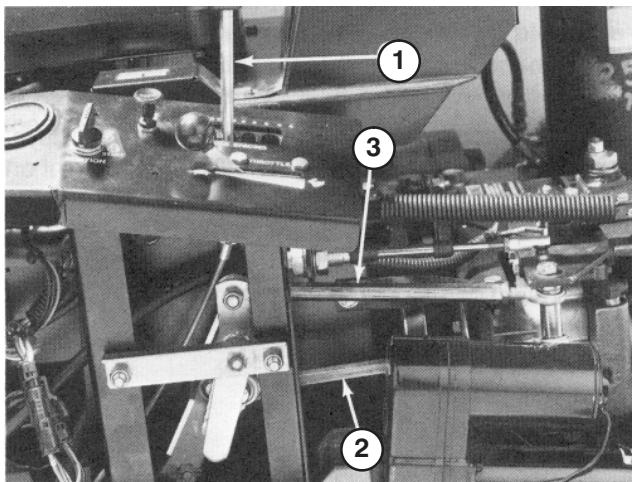

Figure 34
2. Put the speed control lever (Fig. 34) into the second slot from the left (while facing the control panel).
8. Loosen the jam nuts and adjust the LOWER speed rod (Fig. 34) until the traction wheel rotates at 20–22 RPM. Tighten the jam nuts.
10. Adjust the UPPER speed rod (Fig. 34) until the traction wheel rotates at 20–22 RPM. Tighten the jam nuts.